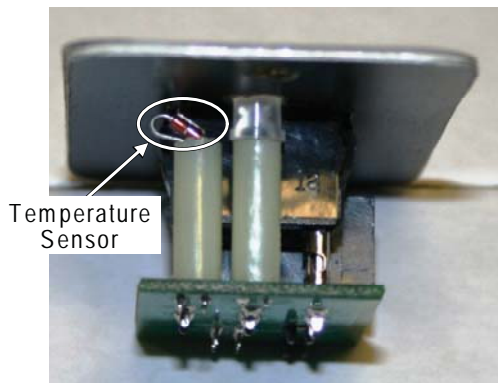

Figure 3, Locating Sensor
1. Find the temperature sensor behind the remote switch front plate; it is a small reddish looking device close to the metal front plate (see Figure 3).